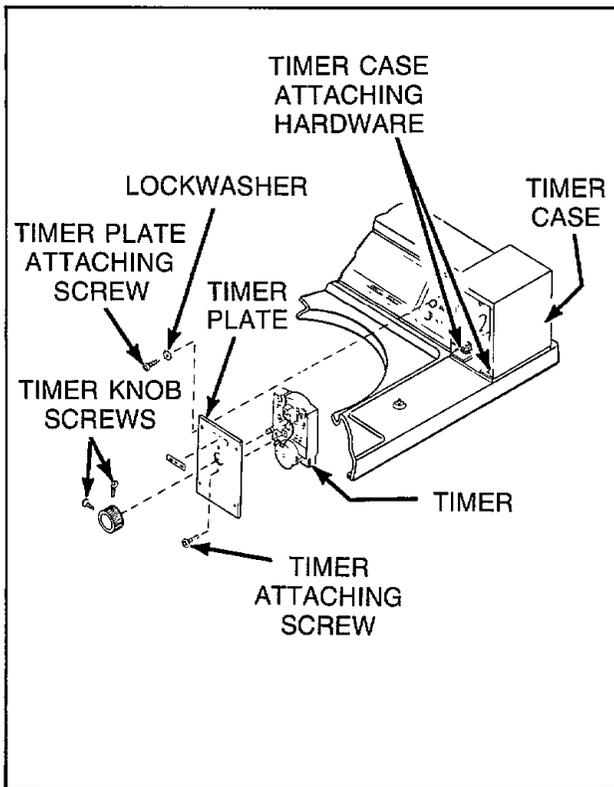

Figure 6
5. TIMER ASSEMBLY - Non-Metered Models (Refer to *Figure 6*)
- h. Remove carriage bolt, washer, lockwashers, and nuts holding timer case to cabinet top, *Figure 6*.